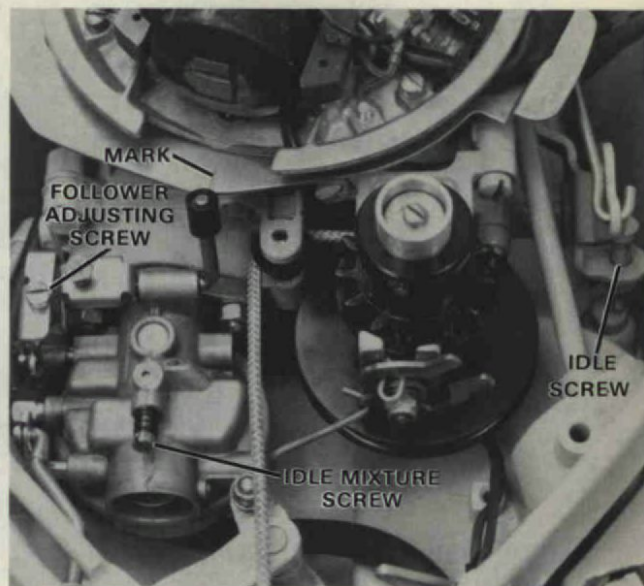

Figure 15. Adjusting Pick-Up Point.
1. Turn idle speed screw counterclockwise until throttle pick-up mark on throttle cam is on starboard side of roller on carburetor follower, Figure 15.